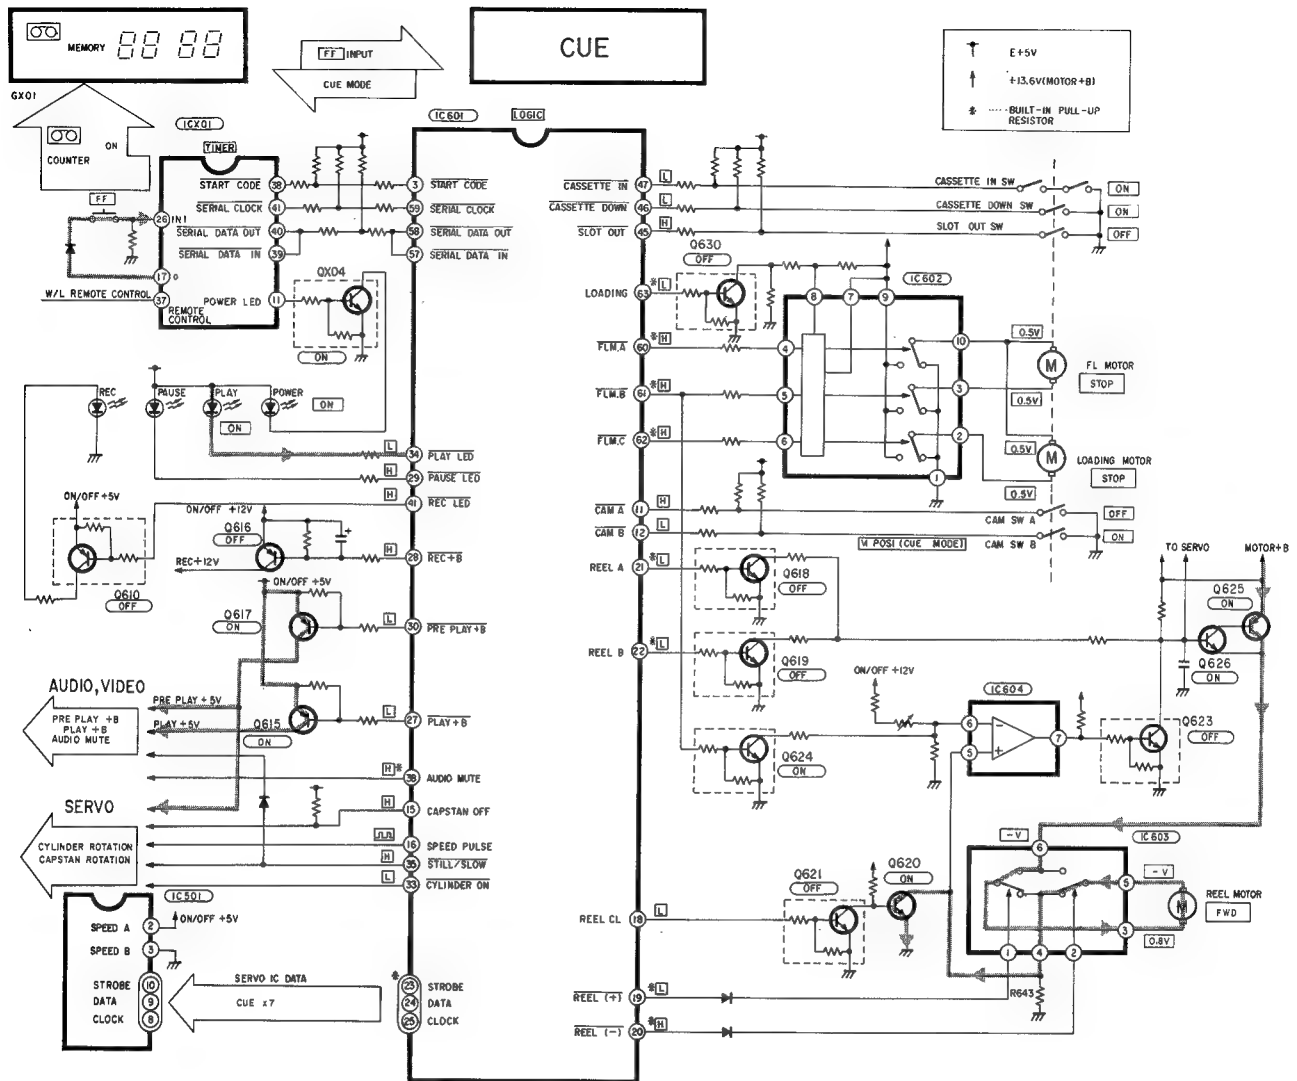

Fig. 3-4-10
- (1) When the FF button is pushed during the playback mode, IC601 is set to the cue (FF playback) mode.
- (2) The loading motor rotates in forward direction and the cam moves from the position V to the position VI.
- (3) Pin outputs of IC601 in the cue mode are shown in Fig. 3-4-10.
- (4) Pin 39 of IC601 develops "H" level and mutes audio signals.
- (5) A mode data is sent to IC501.
- (6) The reel motor rotates in forward direction and the idler transfers rotational force to the T-reel table to wind the tape.